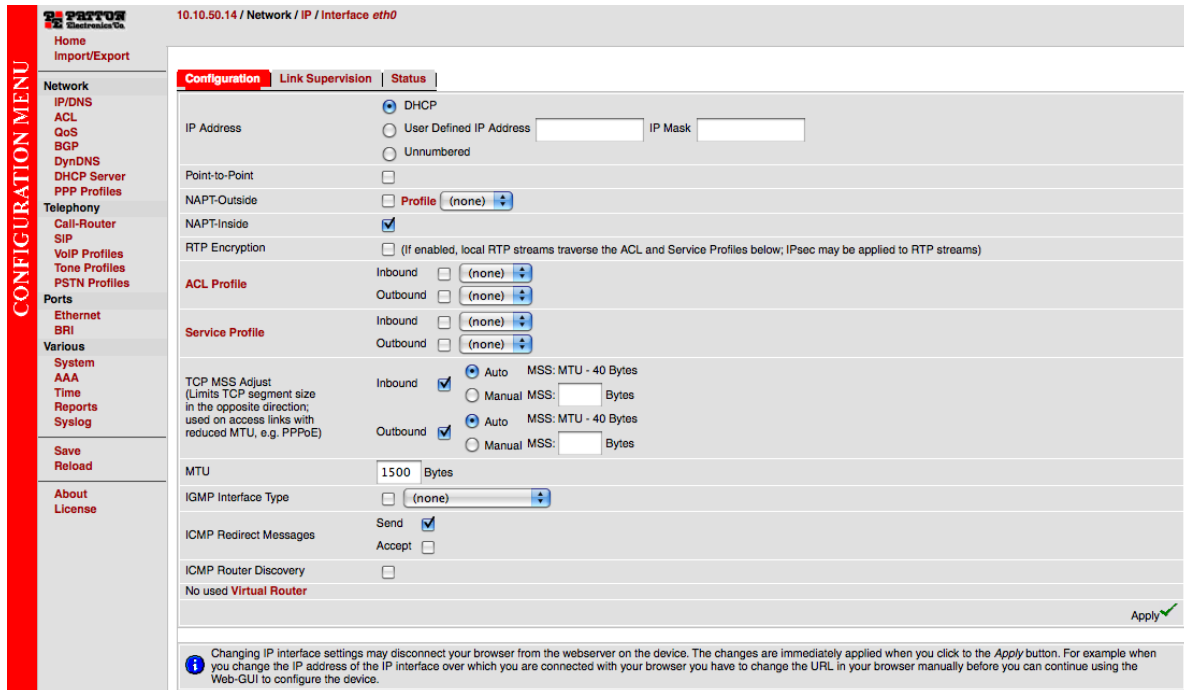

Figure 7. Ethernet Configuration page
1. In the configuration menu pane, click *IP/DNS*. In the *Interfaces* section, click on **eth0**. The Configuration screen for the Ethernet port displays (figure 7).
The SN4120 supports two configuration options for the Ethernet connection (see figure 7), as described in the following paragraphs: